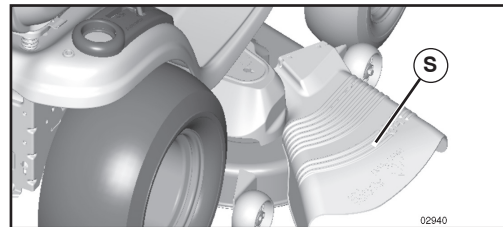

Fig. 13
TO OPERATE MOWER (See Fig. 13)
CAUTION: Do not operate the mower without either the entire grass catcher, on mowers so equipped, or the deflector shield (S) in place (See Fig. 13).